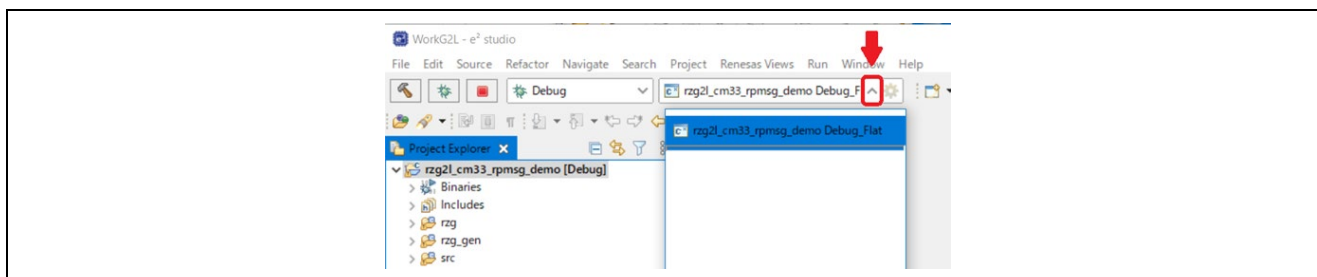

Figure 4-4. Select of Debug Configuration
1. Choose <device>_cm33_rpmsg_demo Debug_Flat or <device>_cm33_rpmsg_demo Release_Flat from the drop-down list indicated by a red arrow in Figure 4-4.